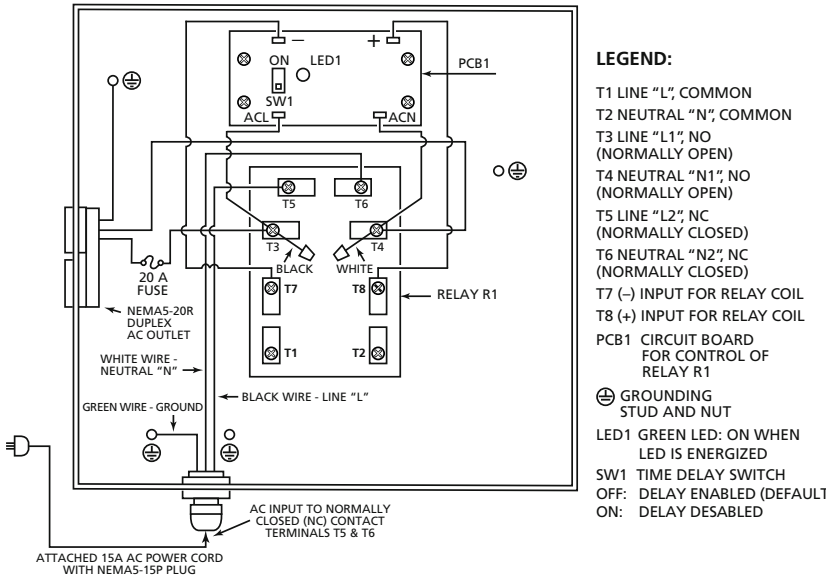

Fig. 5.2 Pre-wired connections
This Transfer Switch has been especially pre-wired for ease of connections for setting up a backup power / UPS (Un-interruptible Power Supply) system with Grid / Shore Power as the Primary Source and the Inverter as the Backup Source. The System will require an Inverter, a Battery Charger and batteries. General overview and features for the pre-wired configuration are given below (Refer to Fig. 5.2).
- a. Re-arrange the pre-wired internal connections (Fig 5.2) to those shown in Fig 5.4 as follows: